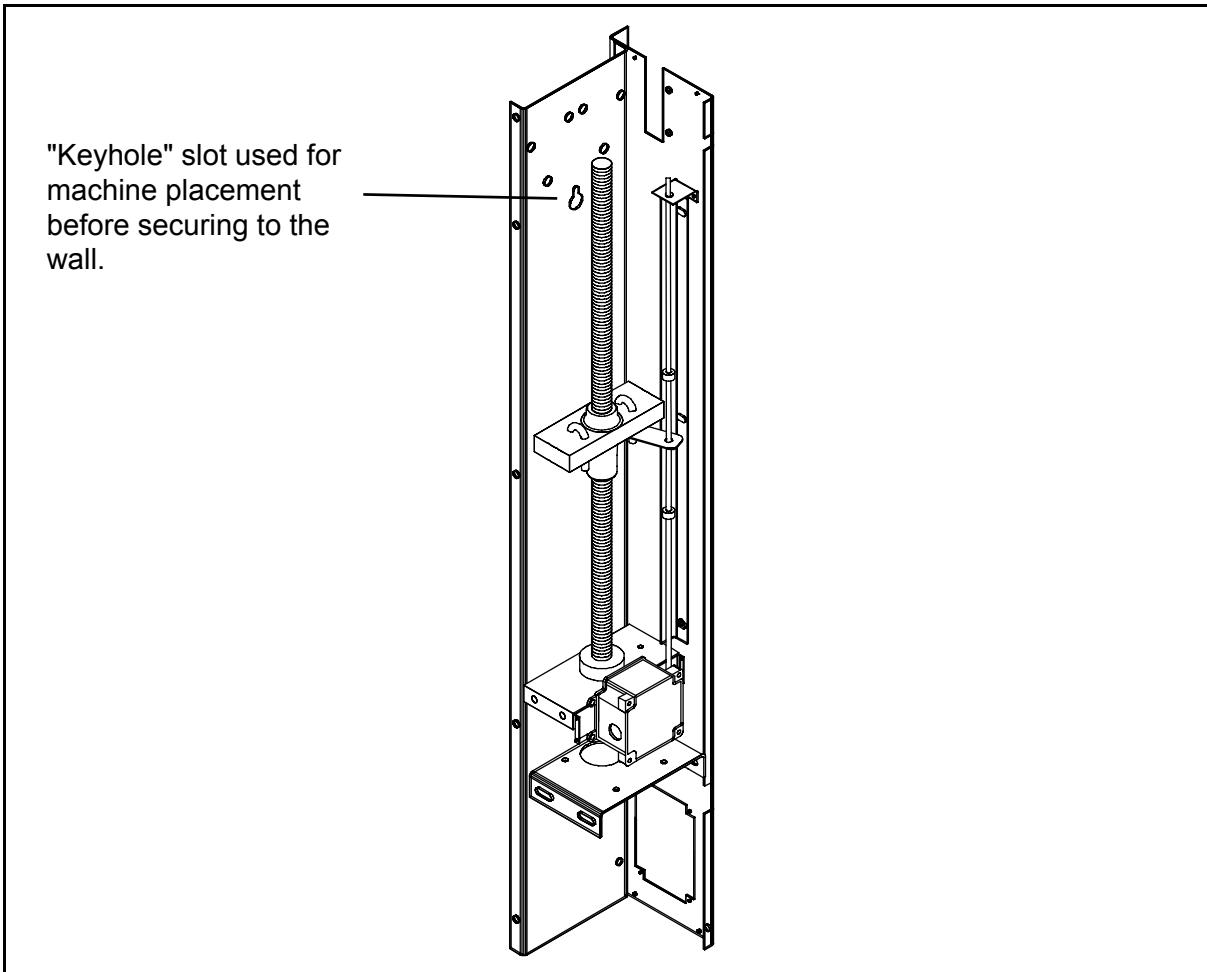

Figure: 3B
4. Using the “keyhole” slot in the back of the Curtain Controller, hang the machine on the 3" lag bolt. (See Figure 3B)